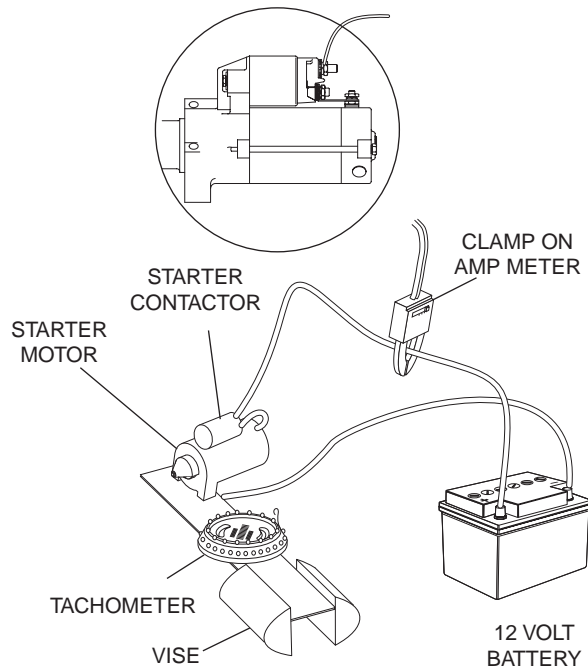

Figure 123. Testing Starter Motor Performance
It is recommended that the starter motor be removed from the engine when testing starter motor performance. Assemble starter to test bracket and clamp test bracket in vise, Figure 123.
2. Connect jumper cables and clamp-on ammeter as shown in Figure 123.